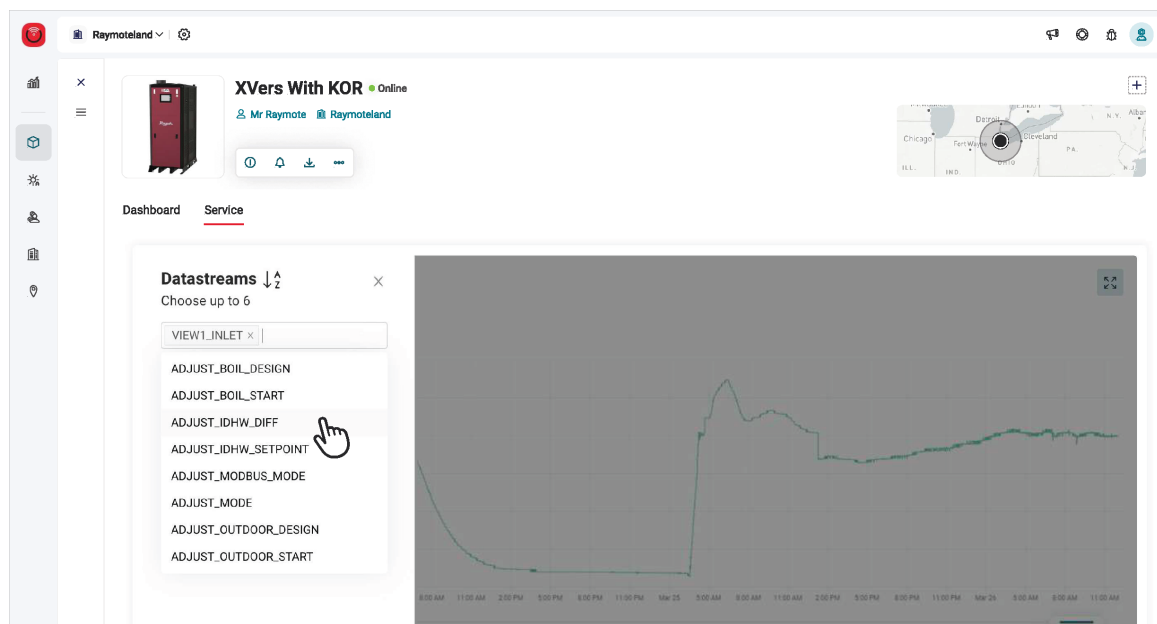

Figure 72. Service Chart and Signal Selection
2. Select "Service" from the top menu. See **Figure 72**.